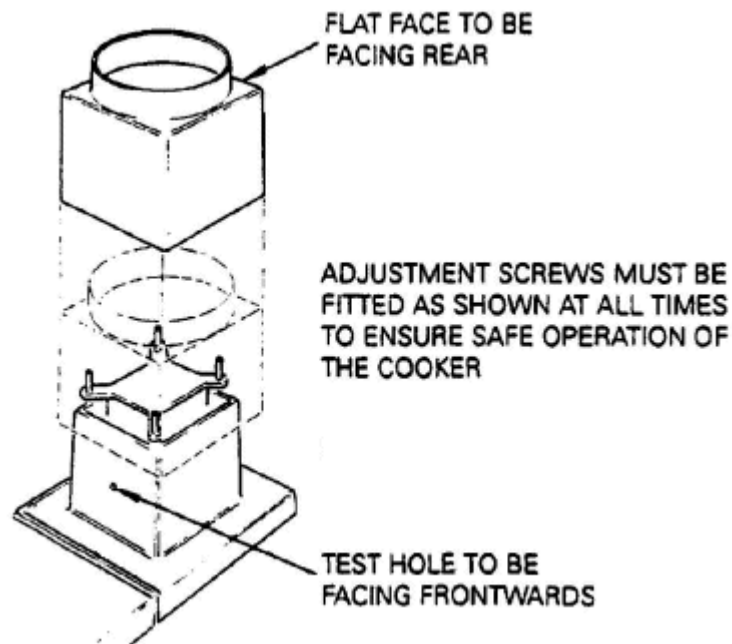

Fig .7 DESN 510827
2. Locate and secure flue outlet spigot to top plate with sampling hole at front. Place horizontal baffle on spigot and locate flue outlet hood on baffle supported by internal screws. See Fig.7.
Identify a sampling hole in the front of the flue hood assembly. See Fig. 7.